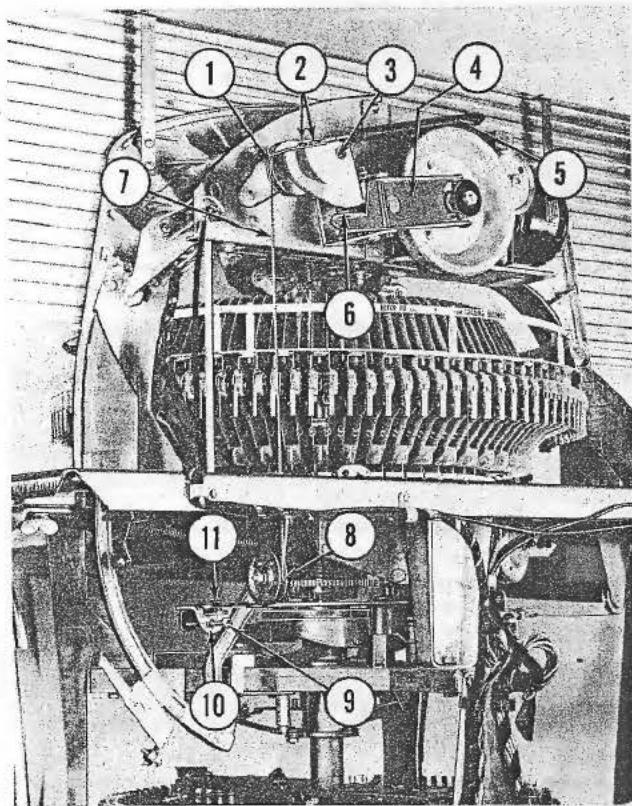

Fig. 85. ACTUATING ARM AND CABLE ADJUSTMENT,
The actuating arm and cable adjustment for the turntable and tone arm (Fig. 85) should be made with the mechanism in play position. Set the adjusting screw (Item 9) so that the roller (Item 6) just rests against the stop wall of the cam with no slack in the cable (Item 7).
(2) Remove the two screws holding the stop plate on the turntable cam (Fig. 85, Item 2) to allow the cam to rotate counterclockwise, as viewed from the rear, far enough to hook the lower loop in the cable over the slide pin (Item 11). The cable should pass over the idler pulley (Item 8).